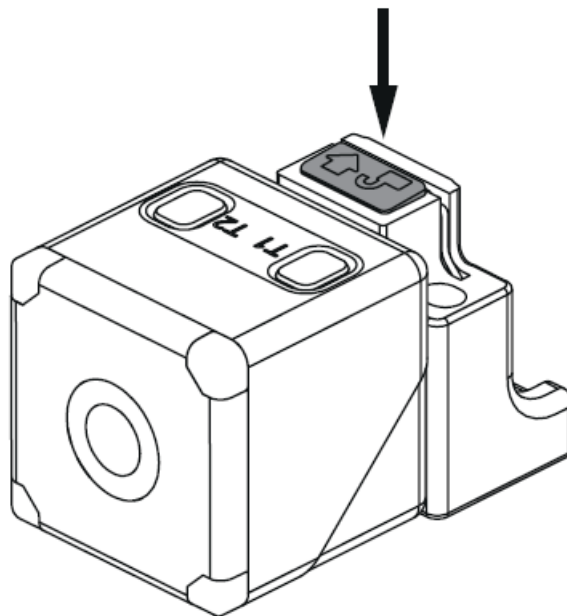

Fig. 7: Remove the sensor
- Remove the sensor from the Quick-Lock mounting bracket: Unlock the latch according to Fig. 6 and press down (Fig. 7). The sensor detaches and can be removed.